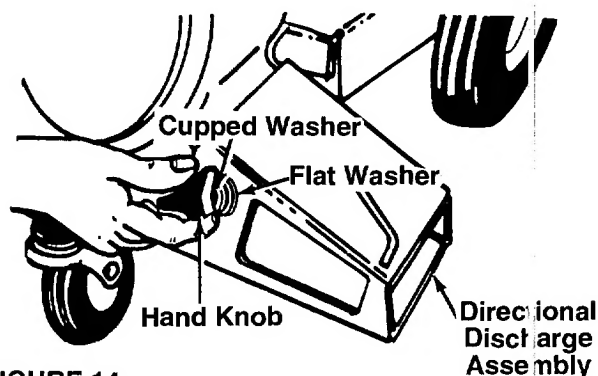

FIGURE 14.
6. Place the directional discharge assembly over chute opening. Secure with one hand knob, cupped washer and flat washer, and the thumb screw and cupped washer. The cupped side of washer goes against the flat washer. See figure 14.